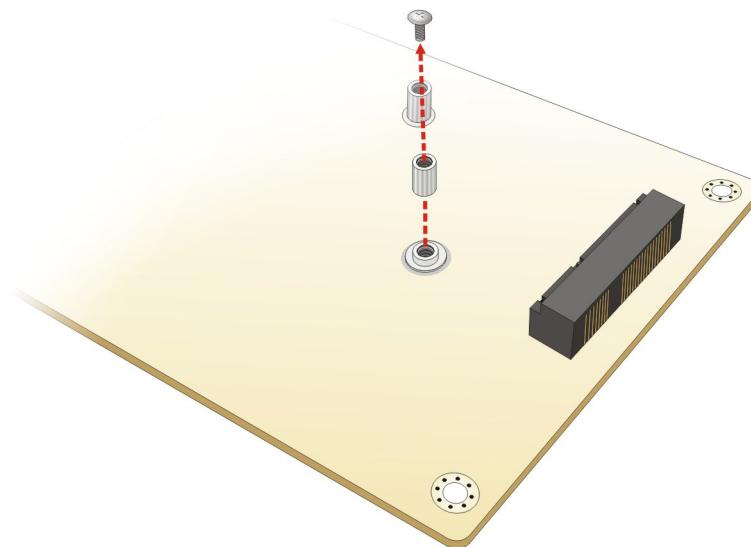

Figure 4-3: Removing the Retention Screw and Standoff
Step 3: **Remove the retention screw and standoff.** Unscrew and remove the retention screw and standoff for half-size PCIe Mini card secured on the motherboard as shown in **Figure 4-3**.
CN Location:	See Figure 4-3
The location of the clear CMOS button is shown in **Figure 4-3**